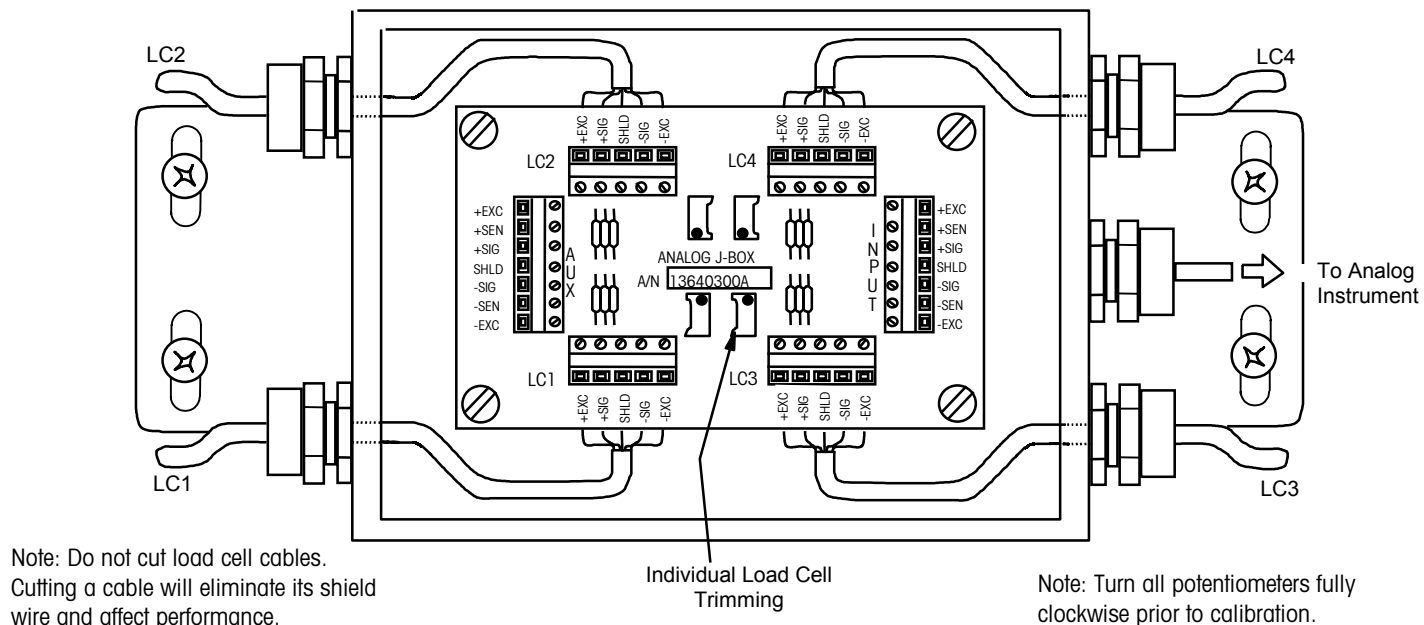

Figure 3-3: Analog Junction Box Detail
Model 0970 weigh modules can be used with an analog junction box for summing the load cell outputs. Only analog-compatible indicators work with an analog junction box. See Figure 3-3 and Table 3-1 for cable connections.
1. Wire the home run cable to the PCB according to Figure 3-3 for Analog, Figure 3-4 for RAAD, or Figure 3-5 for IDNet.